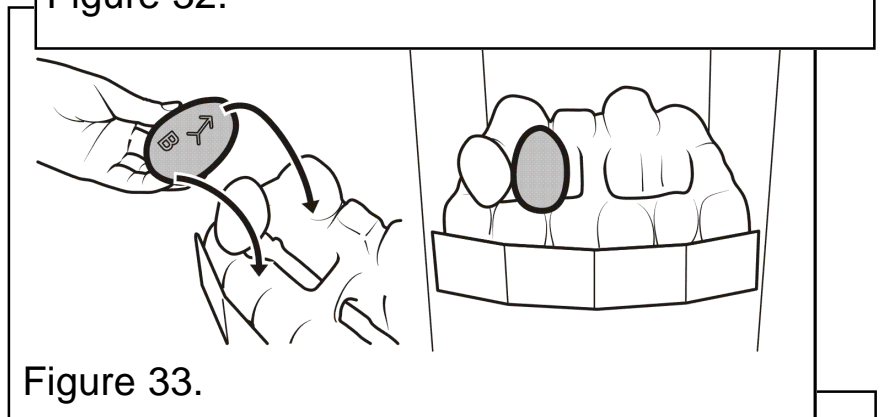

Figure 33.
4. Hold pebble 'B' upright with the arrow pointing to the top. Place pebble "B" on top of the base pebble. (See figure 33).